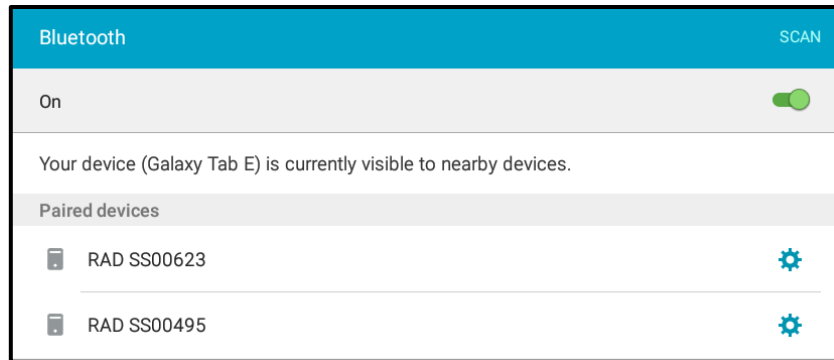

Figure 2-3: Bluetooth settings
1. Open "Settings" on the Android device (Figure 2-3).